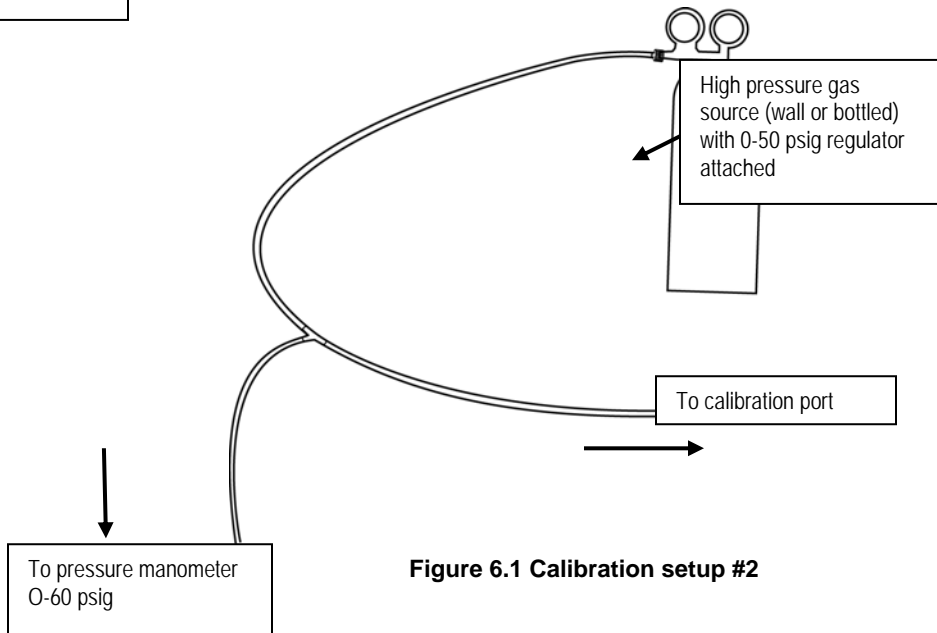

Figure 6.1 Calibration setup #2
5. Connect test setup #2 as shown in figure 6.1 to the front panel nebulizer port and regulate oxygen to 50 PSIG +/- 0.5 PSIG.